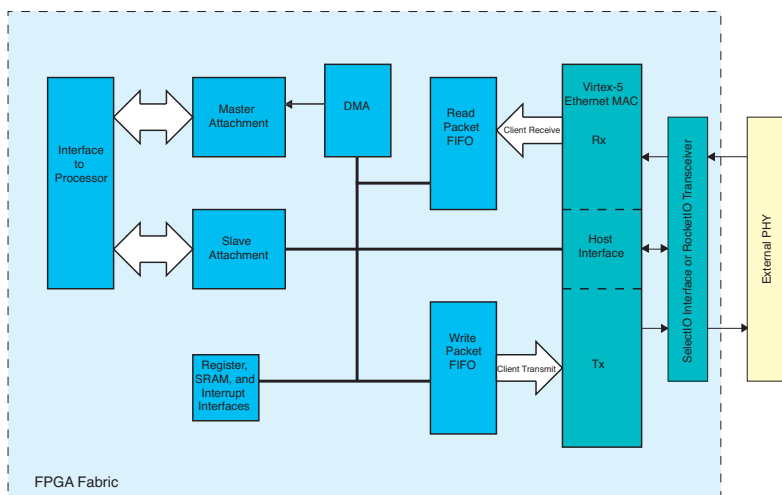

Figure 2 – MAC connected to a processor on the Virtex-5 FPGA
- Attach the Ethernet MAC to a processor running a protocol stack in network processing or remote monitoring systems, as shown in Figure 2.